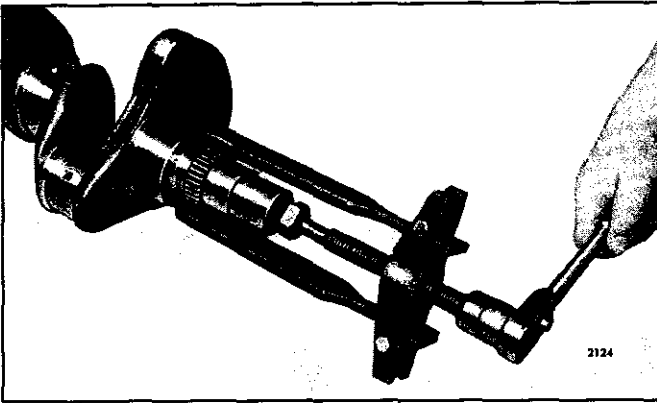

Fig. 7 - Removing Oil Pump Drive Gear
- Thread the crankshaft pulley retaining bolt in the end of the crankshaft (Fig. 7).